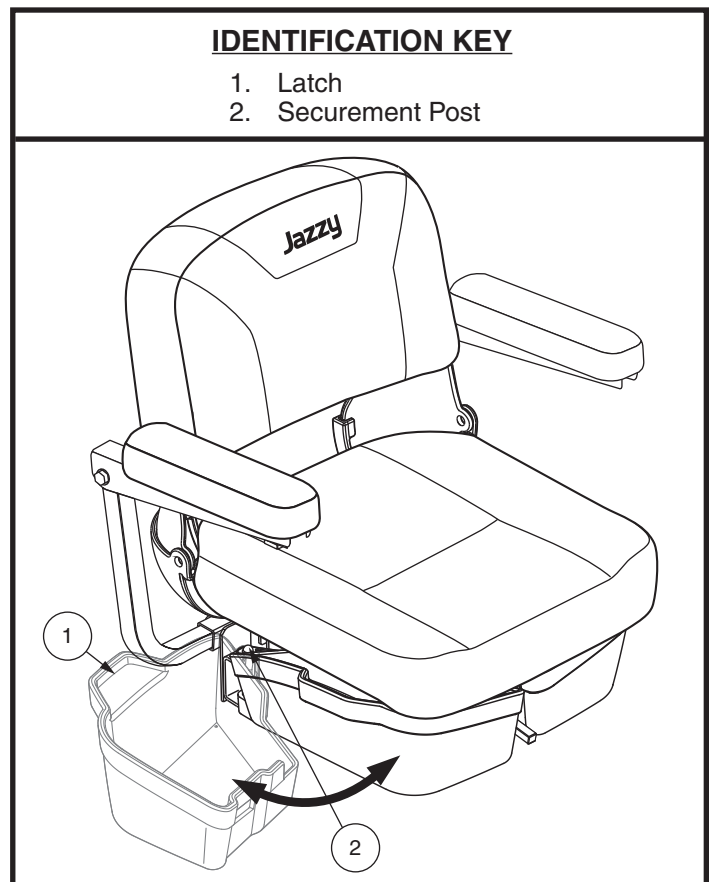

Figure 27. Under-seat Storage
1. Lift up slightly on the latch on the side of the under-seat storage bin (see figure 27) and swing the under-seat storage bin out and away from the Travel Scooter.
1. Lift up slightly on the latch on the side of the under-seat storage bin (see figure 27) and swing the under-seat storage bin out and away from the travel scooter until it is fully open.
2. If equipped, remove under-seat storage. **See Figure 27.**
7. If equipped, install under-seat storage. **See figure 27.**